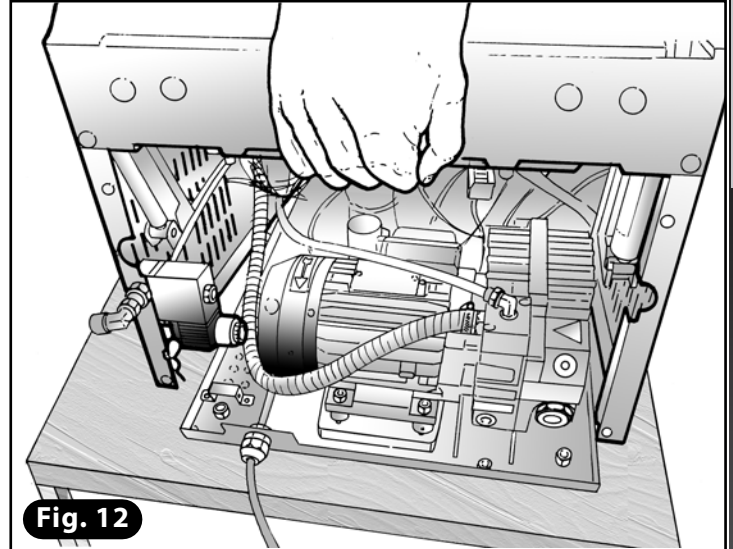

Fig. 12
- 18) Lower the body down onto the base making sure it is positioned correctly (**Fig. 12**).